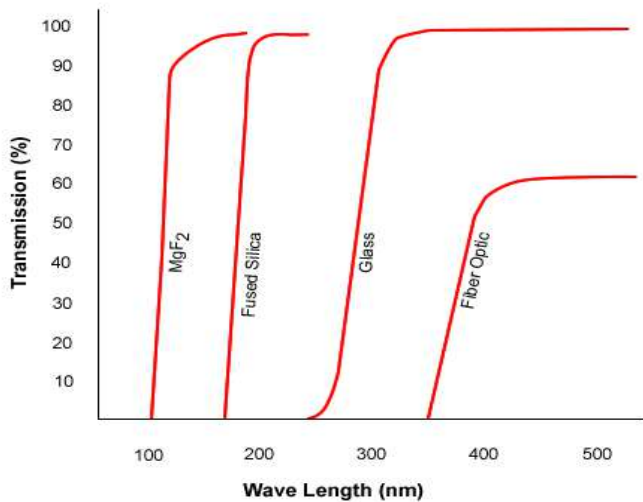

Figure 2: Transmission of input windows.
PHOTOCATHODE - The input window of an image intensifier is selected to have good transmission for the light being imaged and typically determines the short wavelength response of the image intensifier. Example window materials are given in Figure 2. The photocathode is a thin film semiconductor grown on the inside surface of the glass input window. The photocathode material is selected to provide high sensitivity to the light being imaged. When a photon, or quanta of light, is absorbed in the photocathode an electron is freed and can be emitted from the vacuum surface of the photocathode as a photo-electron (pe). The photocathode's Quantum Efficiency (QE) is defined as the ratio of photoelectrons emitted from the photocathode's surface (N_{pe}) to the number of photons incident on the photocathode ($N_{photons}$). The
1. Lower wavelength cut-off is determined by the input window given in Figure 2, Fused Silica is assumed except for CsI which uses MgF₂.